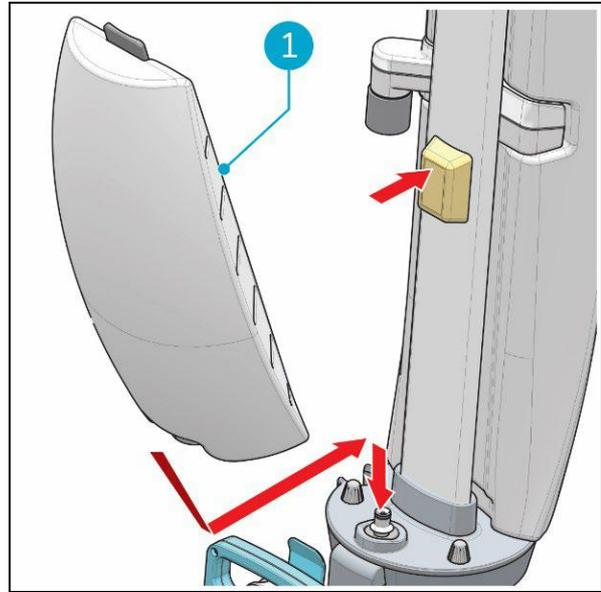

Figure 14
5. Put the tank on the imop Lite with the valve first (Figure 14, pos 1).